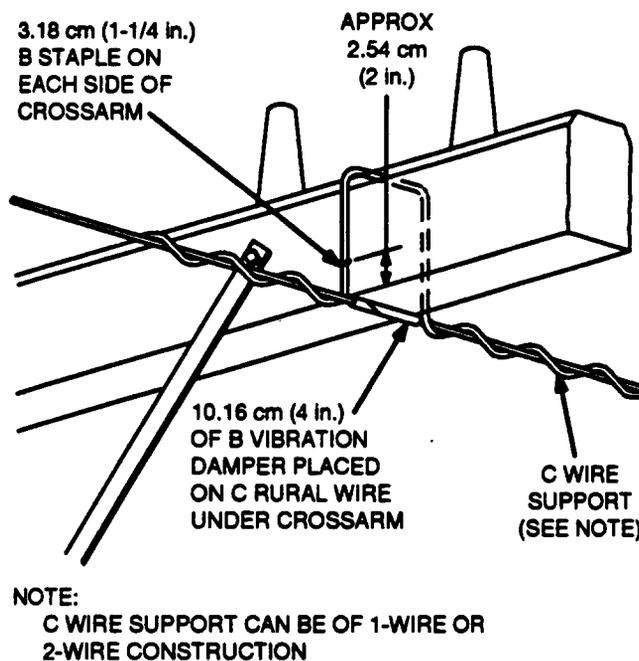

Figure 9. Attaching to Crossarm on Corner Poles with Pull Up to 3.05 Meter (10 Feet)
- 7.02 Attachments to crossarms on in-line poles and on poles with corners up to 3.05 meters (10 feet) of pull are made with the C wire support as shown in Figure 9. Other C rural wires can be run parallel to the first, provided a separation of at least 7.62 cm (3 inches) is maintained.